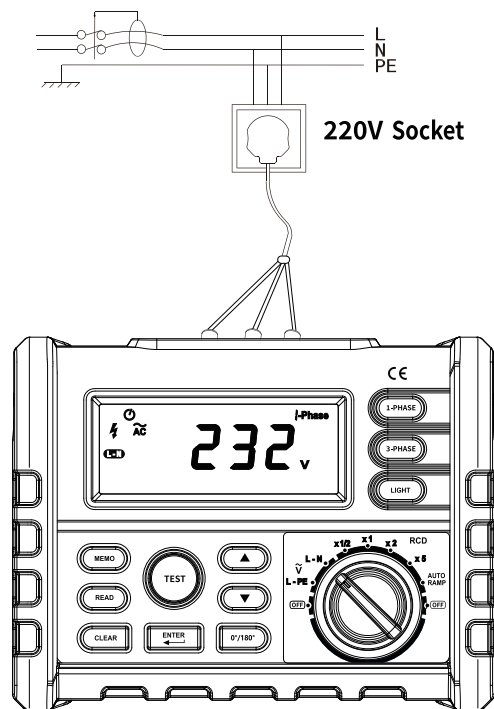

Fig.3
Single-phase mode testing (the wiring method is as Fig.3)
- ① Insert the three terminals of the three pin plug testing wire into the corresponding three ports of the instrument: L to L (line wire), E to E (earth wire), and N to N (neutral wire). After connecting the testing wire to the instrument, plug the three pin plug on the other end of the testing wire into the testing terminal (220V/50Hz power socket) (see Fig. 3 for details).
- ② Check if the voltage value displayed on the LCD screen is within the testing range (180-264V). If it is not within the range, please check if the wiring is correct. If within the range, please turn the function selection button to the required function gear: